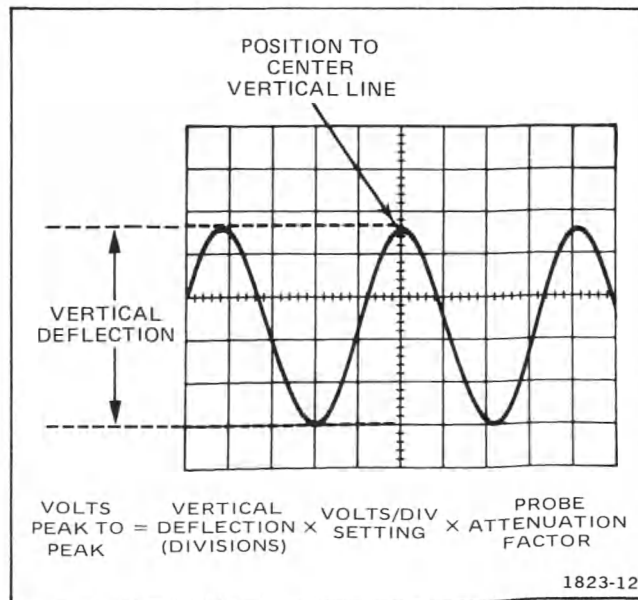

Fig. 12. Measuring peak-to-peak voltage.
c. Measure peak-to-peak, or peak-to-trough amplitude of the display, or waveform, in graticule div. See Figure 12. Voltage (peak-to-peak) = measured amplitude in div, multiplied by the deflection factor (VOLTS/DIV switch setting times probe attenuation factor).